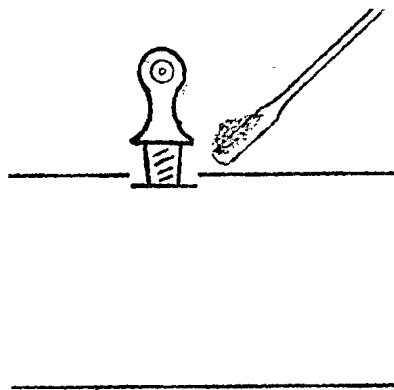

Figure 48
- d) Spread a small amount of powdered pumice around the screw (Figure 48).